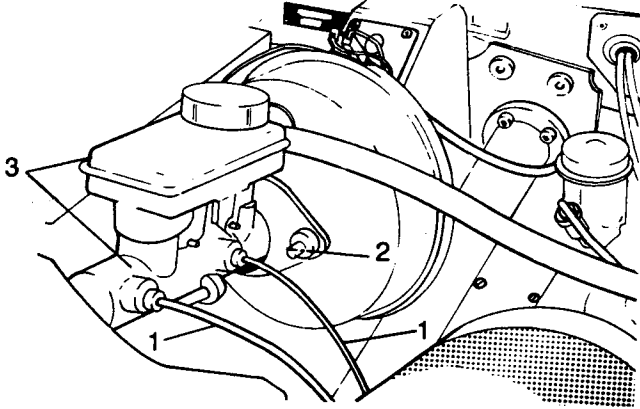

Fig K1.7
- (1) Refer to Fig K1.7. Disconnect the brake pipes (1).
- (2) Remove the fixings at the flange (2).
- (3) Withdraw the master cylinder and fluid reservoir (3).